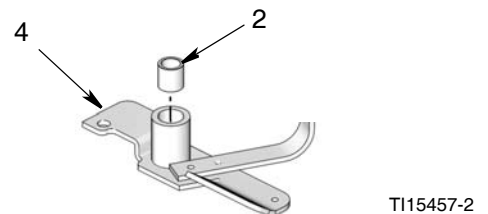

FIG. 12
- g. Install bearing (2) in paddle (4) as shown in FIG. 12.